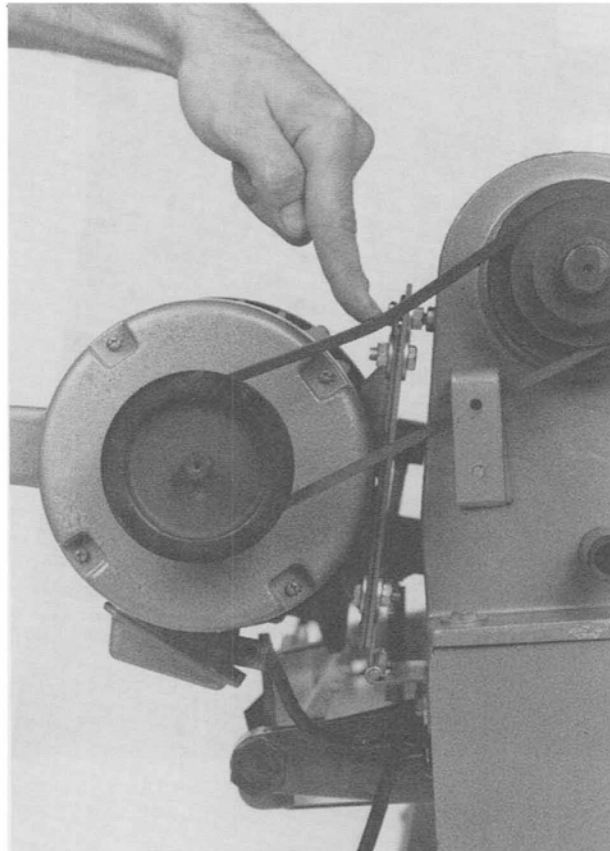

Figure 9 - Shows proper belt tension.
3. When the above is done, re-insert the 5/16" bolt used to tension the belt. We consider that the belt is correctly tensioned when a moderate pressure in the middle of the belt, obtained by pressing it with your index finger, produces a deflection of about 3/16". See Figure 9.